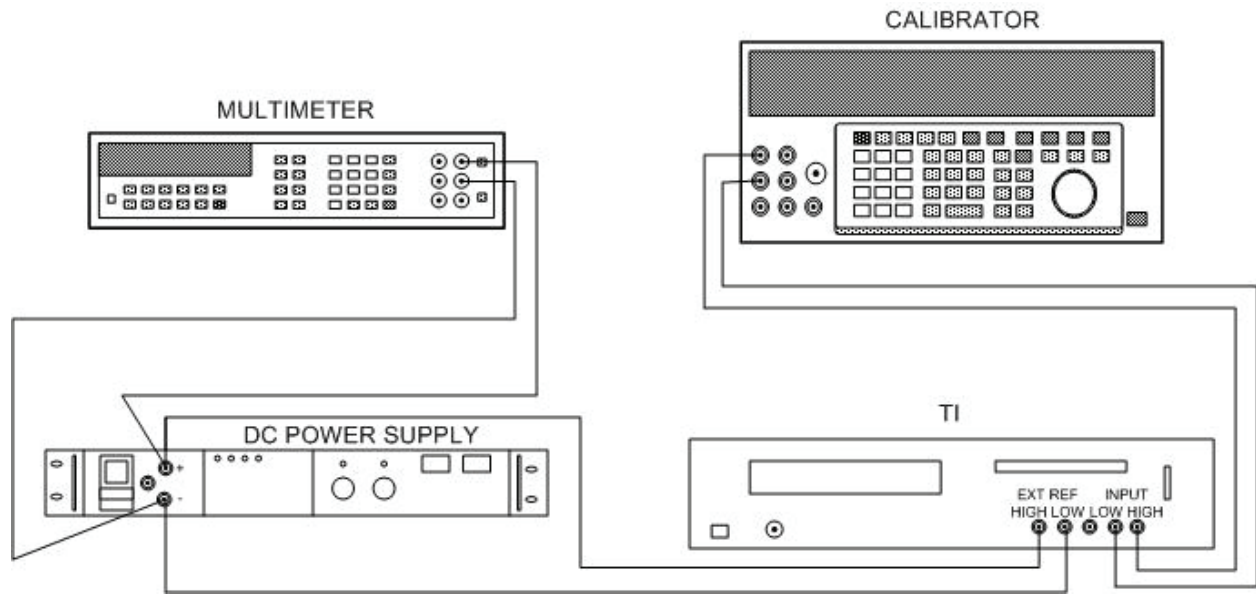

Figure 3. Ac/dc Ratio - equipment setup.
(1) Connect equipment as shown in figure 3.
(2) Set **RATIO** switch to **EXT REF 1V** and adjust power supply for a 0.10000 V dc indication on multimeter.
(3) Set **FUNCTION** switch to **AC** and **RANGE** switch to **1V**.
(4) Adjust calibrator output to 100 mV at 100 Hz. TI will indicate between 0.99860 and 1.00140.
(5) Repeat technique of (3) and (4) above, using **RANGE** switch settings and indications listed in table 5.